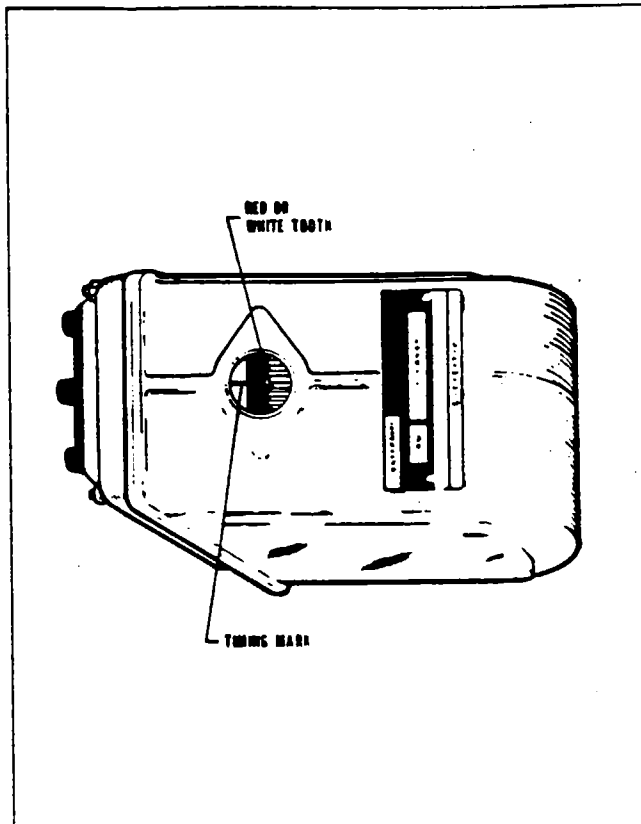

Figure 74-8. Magneto Timing Marks
3. Remove the inspection plug on the left magneto and turn the drive coupling in direction of normal rotation until the first painted chamfered tooth is aligned in the center of the inspection hole. (Refer to Figure 74-8.) Without allowing the gear to turn from this position, assemble gasket and magneto to the engine. Secure in place with washers and nuts; tighten only finger tight.